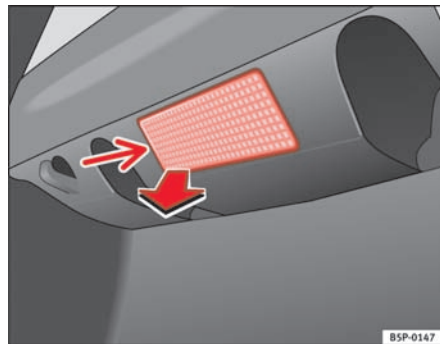

Fig. 146 Luggage compartment light
- Extract the tulip shaped fitting by pressing on the inside edge of this -arrow- using the flat side of a screwdriver ⇒ fig. 146.